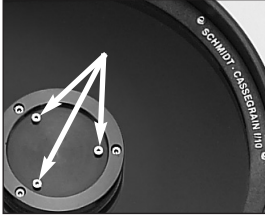

Fig. 24b: Collimation Screws
- a. The only adjustments possible, or necessary, on the LX90 are from the three screws (**Fig. 24b**) located on the inside ring of the secondary mirror housing.